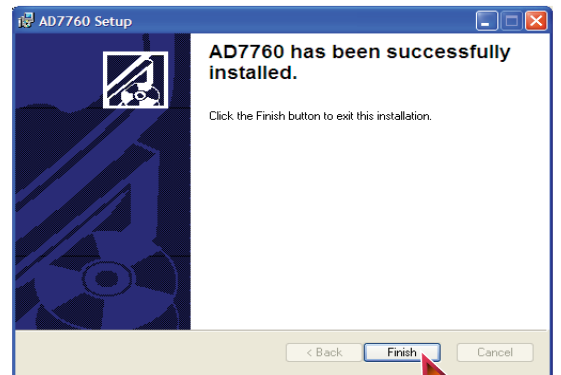

Figure 5. Software Installation Completed
5. The installation begins and when finished, the dialog box shown in Figure 5 appears. Click **Finish** to complete the installation.